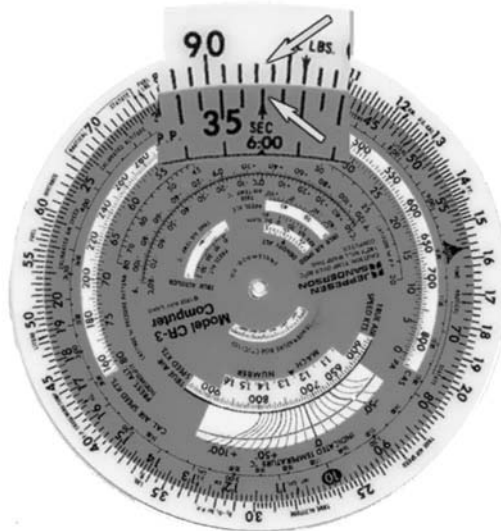

Figure 4.3-27 Fuel Flow 2
- Opposite the High-Speed Rate Index (3600 sec) located on the TIME (inner) scale, read the amount of fuel consumed in one hour on the outer (FUEL) scale. (Figure 4.3-27)